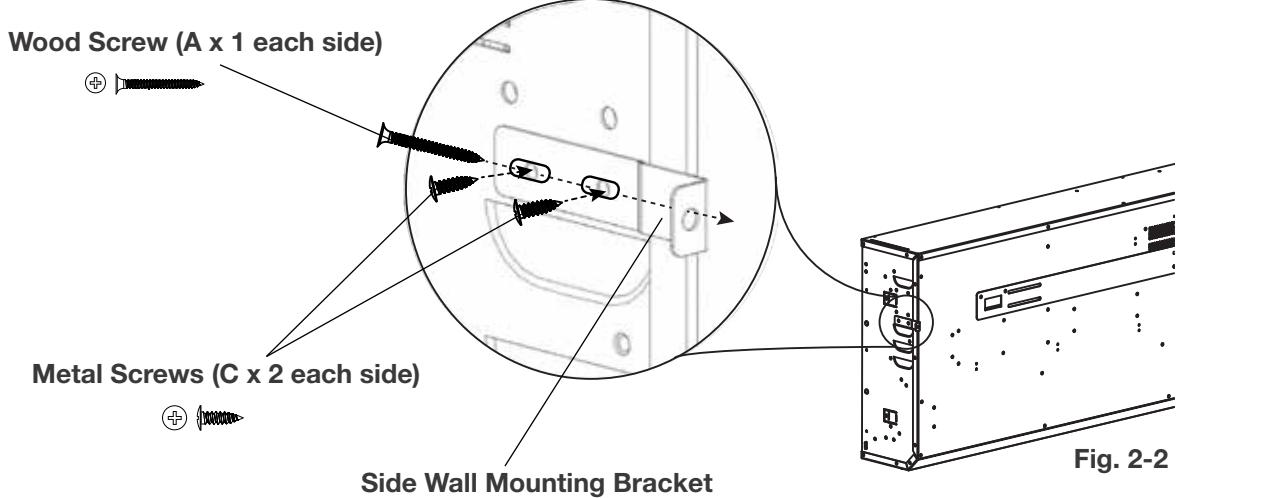

Fig. 2-2
7. Install 2 screws through the side wall mounting brackets (supplied) to secure the appliance to the wall (**Fig. 2-2**). Repeat on the opposite side.